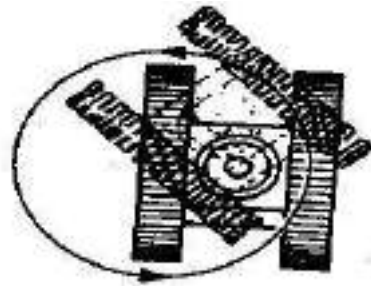

Figure 3.4.2
(3) Turning in one point
- a) Turn left (As figure 3.4.2): Treadle right pedal forward and treadle left pedal downwards.
Left turning (figure 3.4.2): Push right handle forward and pull left handle backward.